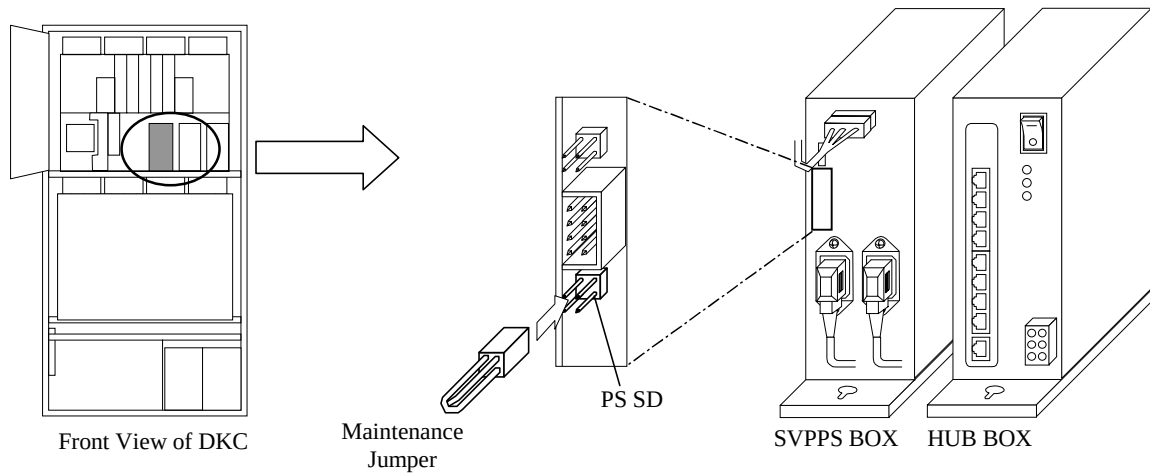

Fig. 4.12-4 Jumper settings of SVPPS BOX
- a. Remove the maintenance jumper of the PS SD on the SVPPS BOX. (See Fig. 4.12-4.)